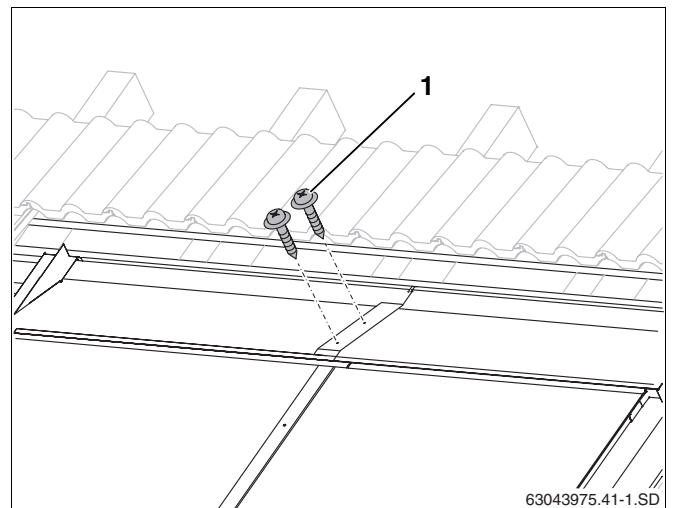

Fig. 59 Joining upper facing panels with screws
- ▶ Fasten each panel overlap with two 25 mm long plumbing screws (Fig. 59, **Item 1**) (provided).